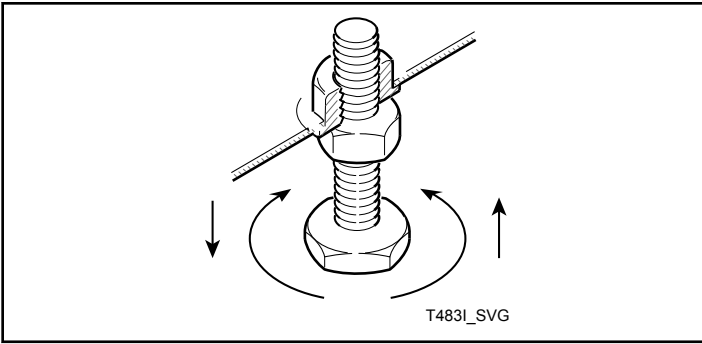

Figure 3
5. Slide tumble dryer to its permanent location. Adjust the leveling legs until the unit is level, or no more than 0.13 inch [3.3 mm] higher in the front. Refer to *Figure 3*. Tumble dryer must not rock. Lock leveling legs with nuts previously installed.